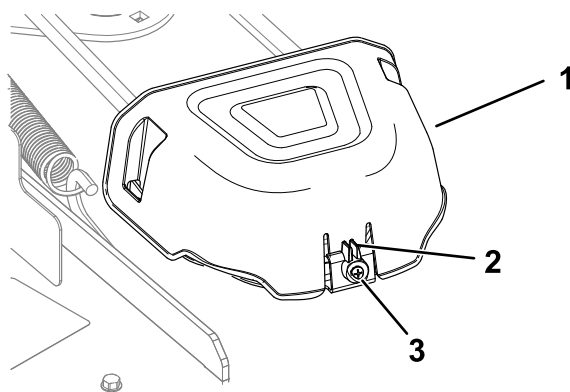

Figure 53
5. Loosen the screw and push in the tab on the cover to remove the pulley covers (Figure 53).